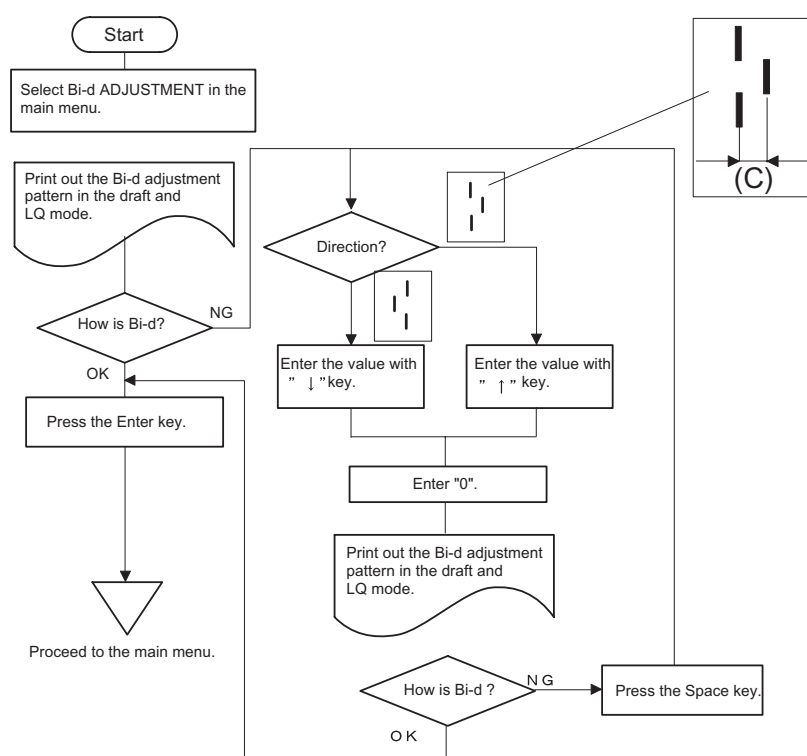

Figure 4-8. Bi-d Adjustment Flow Chart
6. Adjust the deviation referring to the flowchart below to make the deviation (C) less than 1/2 of the line width in the draft mode and 1/3 of the line width in the LQ mode. (Refer to Figure 4-8.)